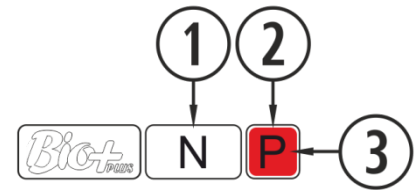

Figure 4
To turn the stove on we have to push the Ⓞ button (On-Off) on the control panel. Point ③ of figure 4 will change colour, as the stove goes through the different ignition phases.